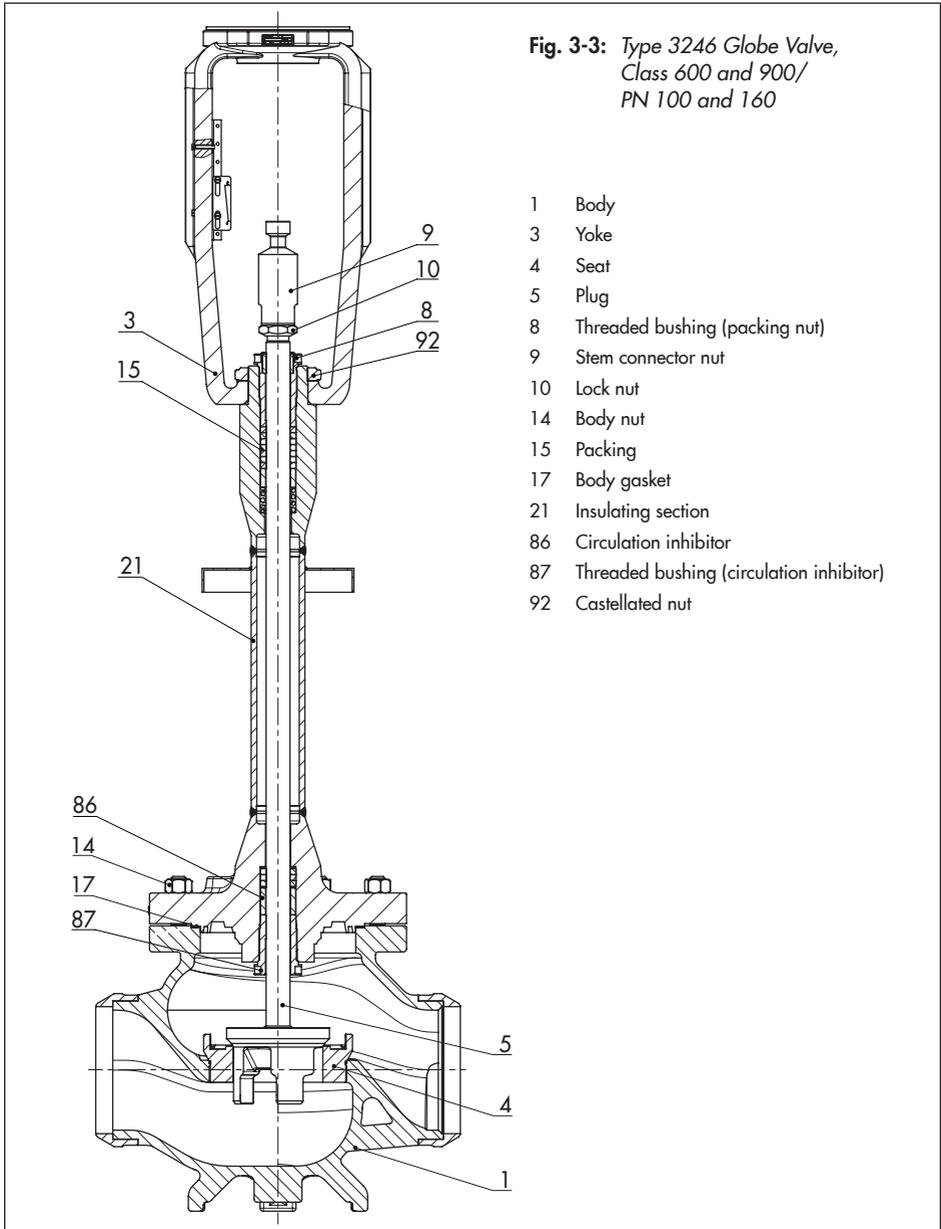

Fig. 3-3: Type 3246 Globe Valve,
- Globe valve, Class 600 and 900/PN 100 and 160 (see Fig. 3-3)